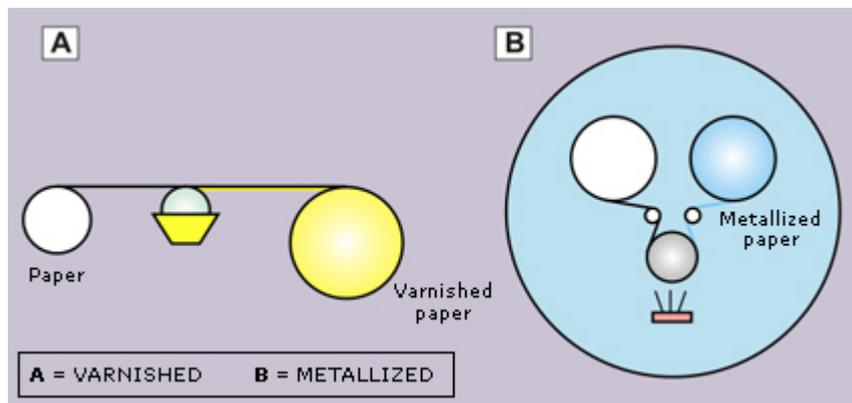

Fig. 3: Diagram of direct metallization.
- **Direct metallization.** In this case, metallization is carried out directly on the paper as is shown in diagram form in figure 3, and can be divided into two stages: